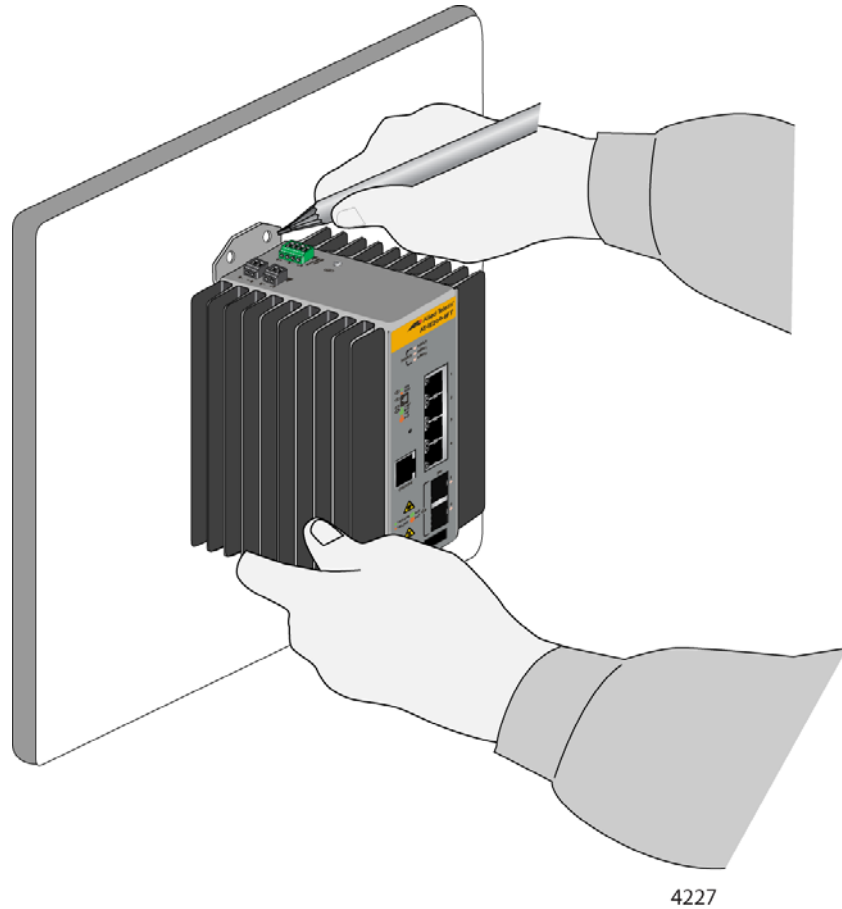

Figure 23. Marking the Locations of the Bracket Holes on a Concrete Wall
3. Hold the switch on the concrete wall at the selected location for the device and use a pencil or pen to mark the wall with the locations of the four screw holes in the wall brackets. Refer to Figure 23 on page 68.
- The switch must be oriented as shown in Figure 23 on page 68. You may not install the switch horizontally or upside-down.